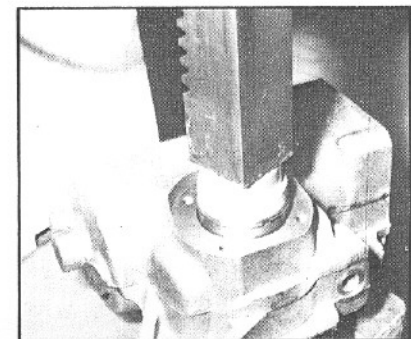

Figure 93
2. If you are installing a new housing bearing (21), apply a generous amount of clean grease to the bearing race to retain the bearing rolls. Then, place the bearing rolls into the race, being sure that you have counted the rolls correctly and have matched the quantity with the correct number for your particular bearing. Press the bearing into the housing from the trunnion side using bearing mandrel (special tool) J26738 (FIG. 93). Take care during this procedure to make certain that the housing is square with the press base and that the bearing is not cocked.